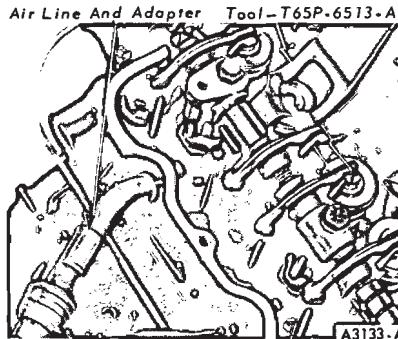

FIG. 19—Compressing Valve Spring—In Chassis
4. Tighten the attaching bolts just enough to seat the rocker arm shaft supports on the cylinder head. Push the rocker arm to one side and secure it in this position (Fig. 19). To move the rocker arm on either end of the shaft, it will be necessary to remove the retaining pin and spring washer and slide the rocker arm off the shaft.
5. Turn on the air supply. Air pressure may turn the crankshaft until the piston reaches the bottom of the stroke. Using the valve spring compression tool shown in Fig. 19, compress the valve and remove the valve spring retainer locks, the sleeve, spring retainer and the valve spring. If air pressure fails to hold the valve in the closed position during this operation, it can be presumed that the valve is not seating or is damaged. If this condition occurs, remove the cylinder head for further inspection.